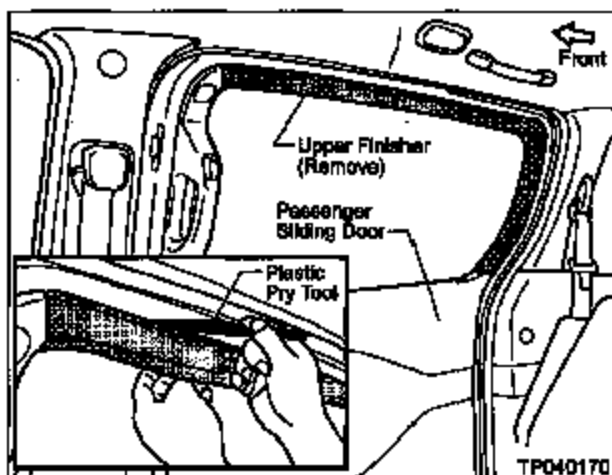

Figure 1
6. Remove the Upper Finisher from the Passenger Sliding Door (see Figure 1).
- Use a Plastic Pry Tool (J-46534\* or equivalent) to release the securing clips (see Figure 1).